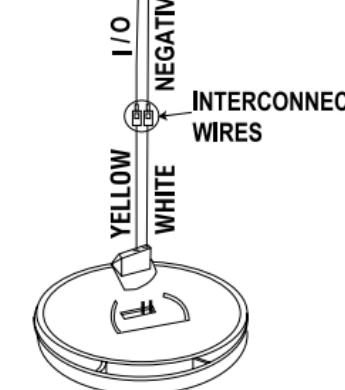

FIGURE 6A
This smoke alarm may be interconnected with as many as 11 Firex Model TPCI smoke alarms (12 units maximum). Do not connect any other type or model of smoke alarm. Push the supplied terminal block onto the pins in the base of the smoke alarm. See Figure 6A.
3. Before discarding or returning the unit for service, the battery must be deactivated. Insert the supplied terminal block with the blue wires into the back of the unit. See Figure 6A. Part of the block will become warm. This is normal. This will deactivate the battery and allow the unit to be shipped or discarded.
5. Firex smoke alarms sold with long-life lithium batteries require replacement approximately every ten (10) years. Replace units approximately every ten (10) years or when the low battery signal sounds.